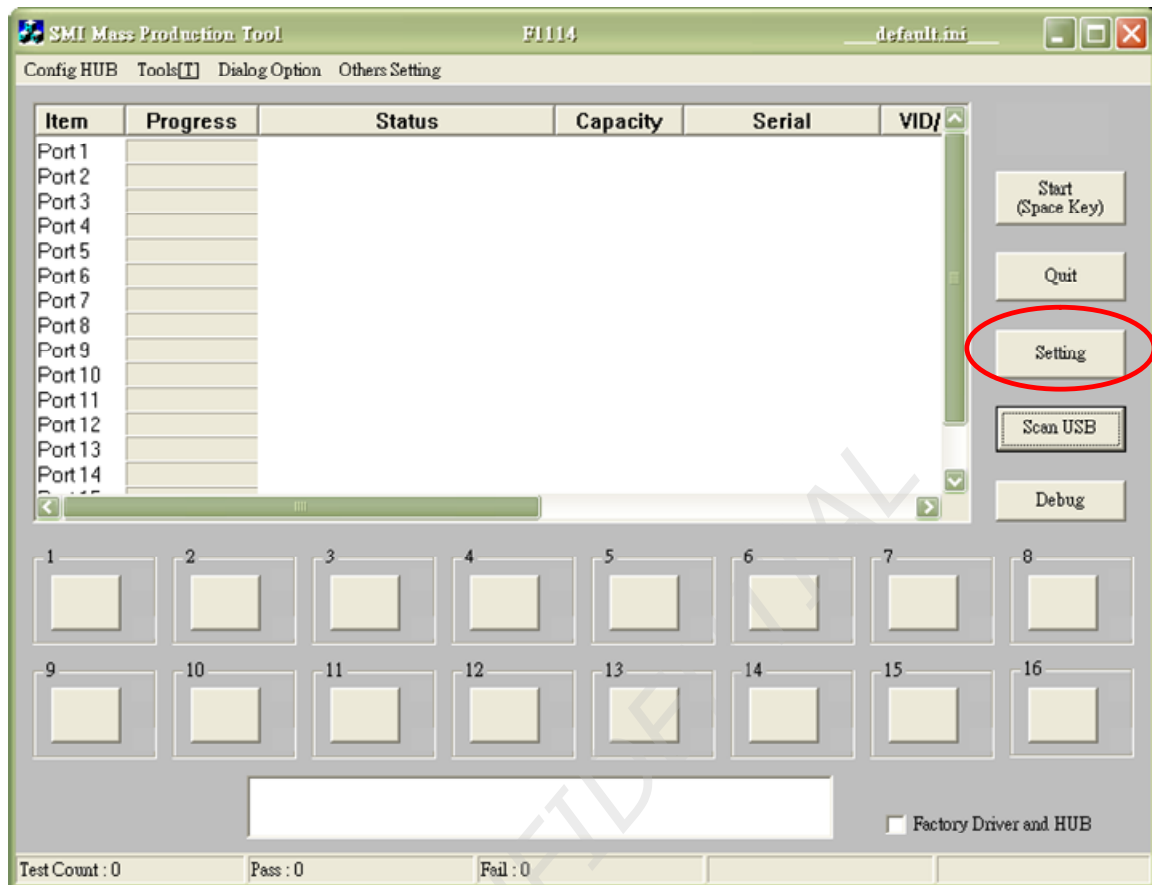

Fig. 1 Setting Function of SM32X Production Tool
- Setting Function:(see the Fig. 1)